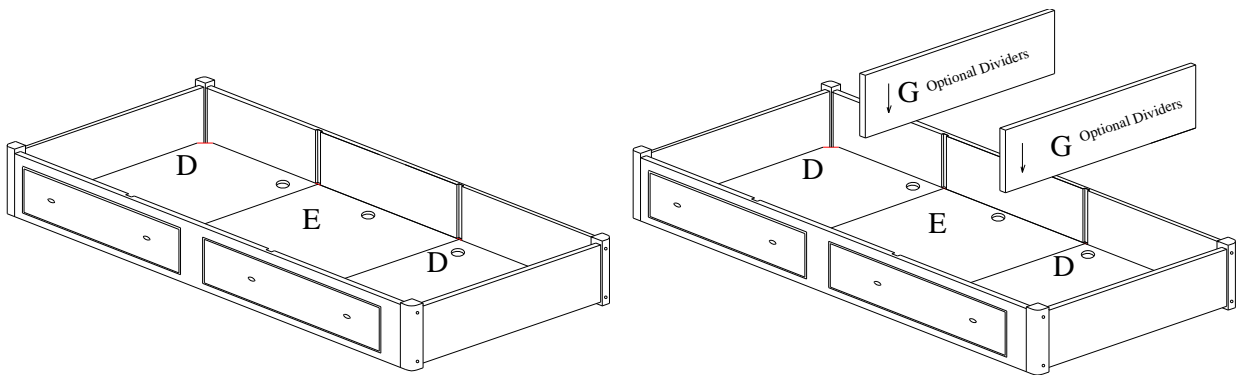

Figure 5
6. See Figure 5: And then insert two **Divide panel (G)** along the scores (for use as a storage drawer) or insert trundle size mattress (Maximum size 38"*73"*8"H) for use as trundle bed.